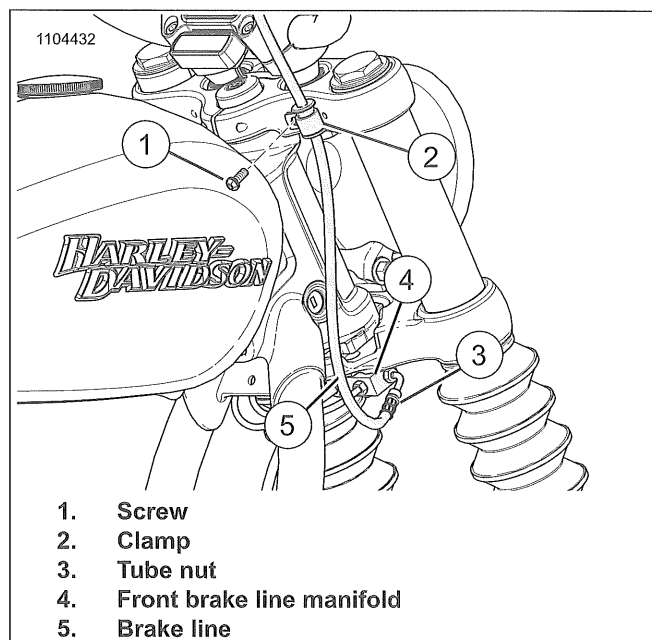

Figure 3-54. Brake Line: Front Master Cylinder (ABS)
1. See Figure 3-54. Remove brake line (5) from front brake master cylinder. See FRONT BRAKE MASTER CYLINDER (Page 3-35).
2. Remove brake line from manifold (4).
- a. Remove screw (1).
- b. Remove clamp (2).
1. See Figure 3-54. Install brake line (5) at front master cylinder. See FRONT BRAKE MASTER CYLINDER (Page 3-35).
2. Install brake line at manifold (4). Tighten.